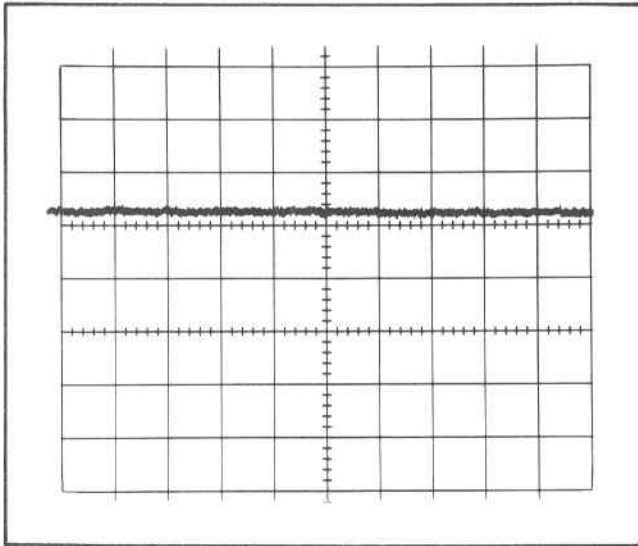

Fig. 5-3. CRT display showing random noise.
c. With the 4-way input connector still grounded, check for ≤ 3 mm of deflection (see Fig. 5-3).